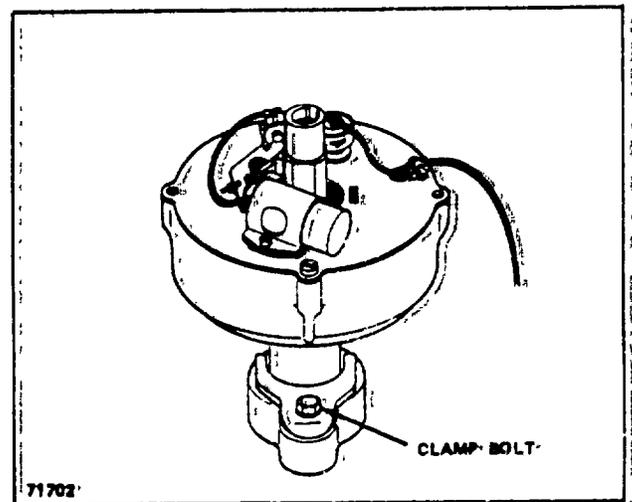

Figure 11. Distributor Timing, Adjustment
1. Loosen clamp at the distributor (Figure 11).